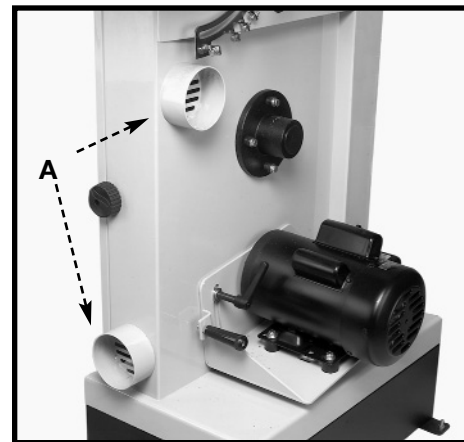

Fig. 29
Two dust chutes (A) Fig. 29 are supplied with your machine and can easily be connected to a dust collection system. The O.D. of the dust chutes is 4" in diameter.